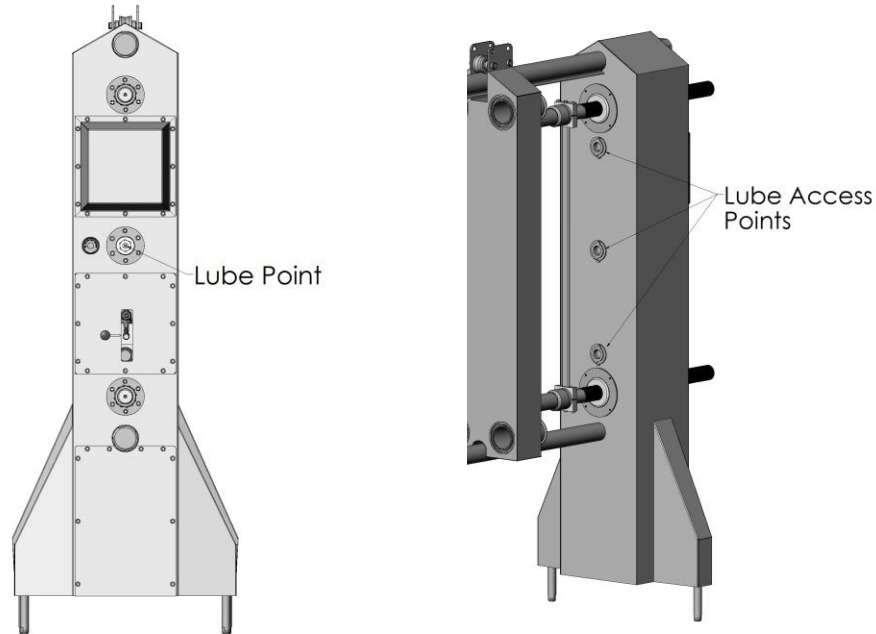

Figure 10
A good preventative maintenance schedule will minimize or eliminate major mechanical problems. Operating the press regularly will help to keep the mechanical components in good working order. The press has three (4) lube points (figure 10) that should be lubed monthly.
7. Locate grease fittings as shown in figure 10. Using food grade grease, lube the three points liberally.